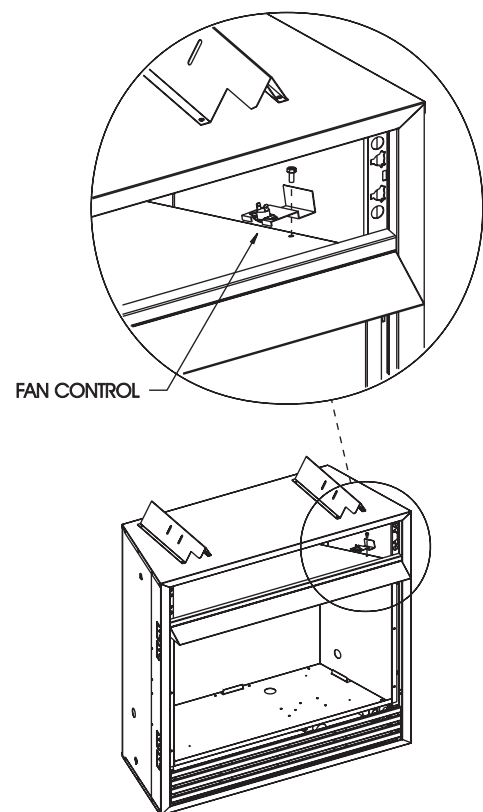

Figure 25
13. Refer to Figure 25 for fan control bracket location. Align clearance hole on fan control bracket with screw hole on firebox top. Attach fan control bracket to firebox top with one (1) screw from Step 12.